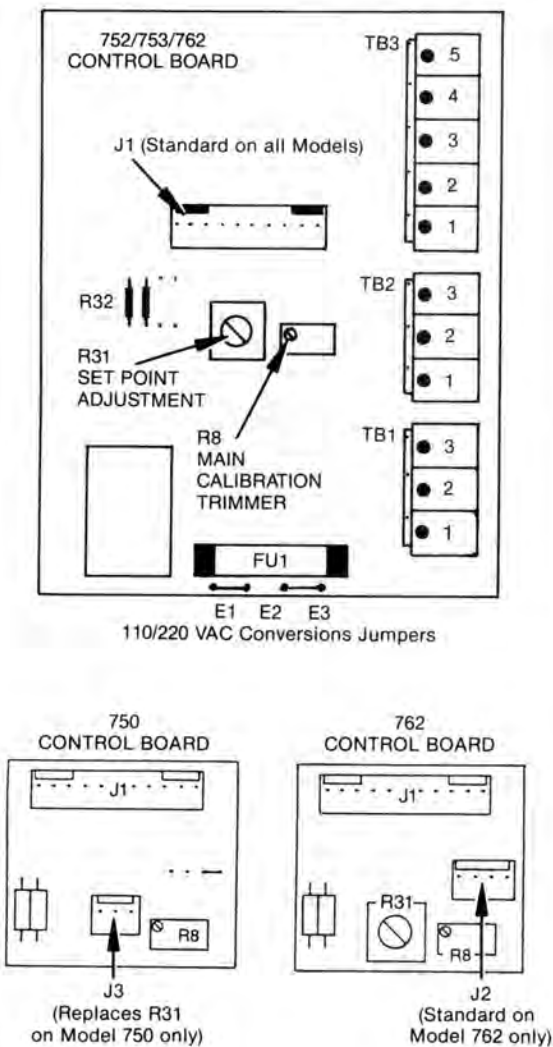

FIG. 4-1
STEP 3 With front panel removed, depress "CHECK SET POINT" switch and observe "SET POINT" on panel readout. With a small screwdriver, rotate the Set Point adjustment pot (R31, Fig. 4-1) to above the reading observed in Step 2. Release "CHECK SET POINT" switch and observe that the red (below) light is on. Depress "CHECK SET POINT" switch and adjust Set Point to below the reading observed in Step 2. Release "CHECK SET POINT" switch and observe that the green (above) light is on. Also note the audible click of the relay as the lights change.
- STEP 3 Remove all five (5) wires from Control board terminal block TB3 (See Fig. 4-1).
- STEP 7 Rotate the main calibration trimmer (R8, Fig. 4-1) counterclockwise until the red light turns on. Now rotate clockwise slowly and stop when the green light comes on. Counting turns, rotate counterclockwise and stop when the red light turns on. Finally, rotate clockwise 1/2 of the turns counted in the last step. This completes the calibration procedure.
- STEP 3 Turn the Control board's R8 adjustment screw (See Fig. 4-1) until the meter displays the appropriate reading as indicated in STEP 2.
STEP 2 While simultaneously depressing the "SET POINT CHECK" switch, turn the Control board's R31 adjustment screw (See Fig. 4-1) until the desired Set Point value is indicated on the meter display.
STEP 2 While simultaneously depressing the "SET POINT CHECK" switch (See Fig. 4-1) turn the Control board's Set Point adjust trimmer (R31) until the meter displays the appropriate Full Scale reading.
STEP 3 Turn the Set Point trimmer (R31) (see Fig. 4-1) until the meter displays a reading of 0.00.